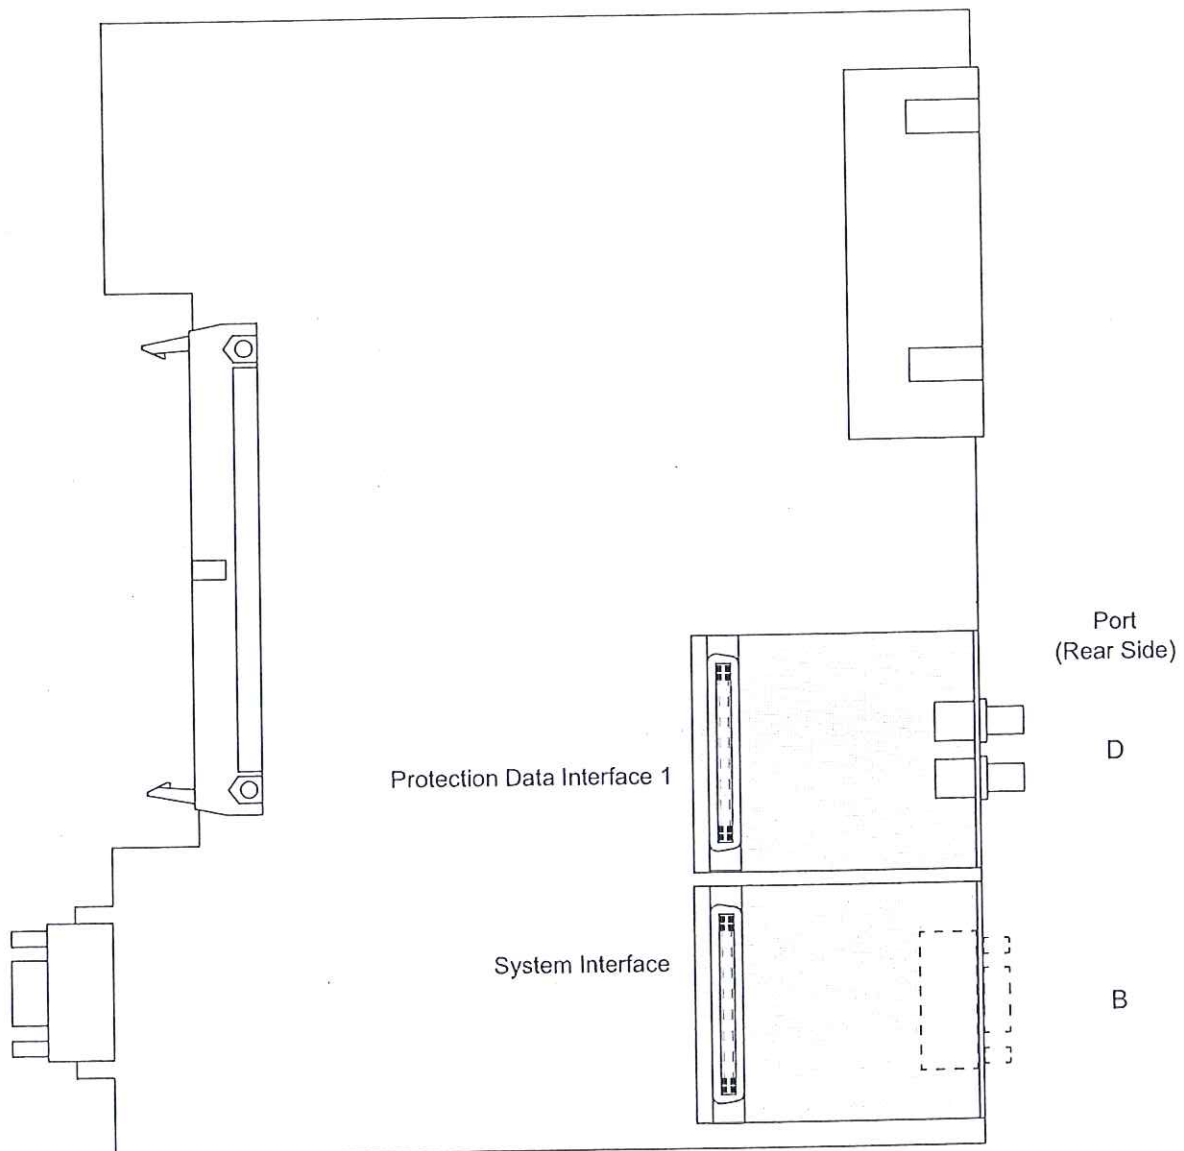
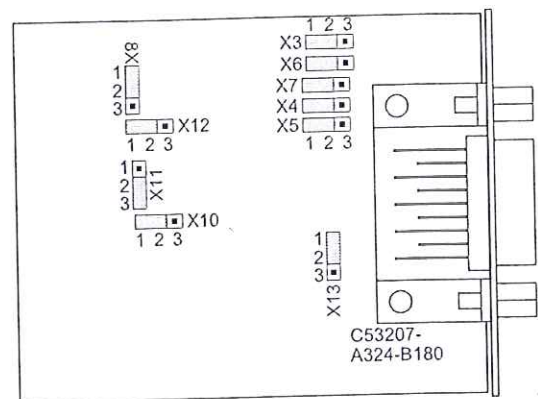

Figure 3-8 Processor board CPU with the interface modules
Figure 3-9 Location of the jumpers on the interface module for RS232
The interface modules can be replaced in housings for flush or cubicle installation. They are located on the processor board CPU (❶ in Figure 3-5). Figure 3-8 shows the CPU board and the location of the interface modules. The ordering numbers of the exchange modules are listed in Appendix A.1.1 (Accessories).
Figure 3-8 shows the PCB of the CPU with the location of the modules. Figure 3-9 shows how jumpers of interface RS232 are located on the interface module.
Note that devices in surface mounted housing with optical fibre connection have an electrical RS232 module on the CPU board (see *Note* above). For this application type, the jumpers X12 and X13 on the RS232 module are plugged in position 2–3, in contrast to the illustration in Figure 3-9.
The interface RS485 can be transformed into interface RS232 according to Figure 3-9.
The terminating resistors are connected to the corresponding interface module that is mounted to the processor input/output board CPU (① in Figure 3-5). Figure 3-8 shows the printed circuit board of the CPU and the allocation of the modules.